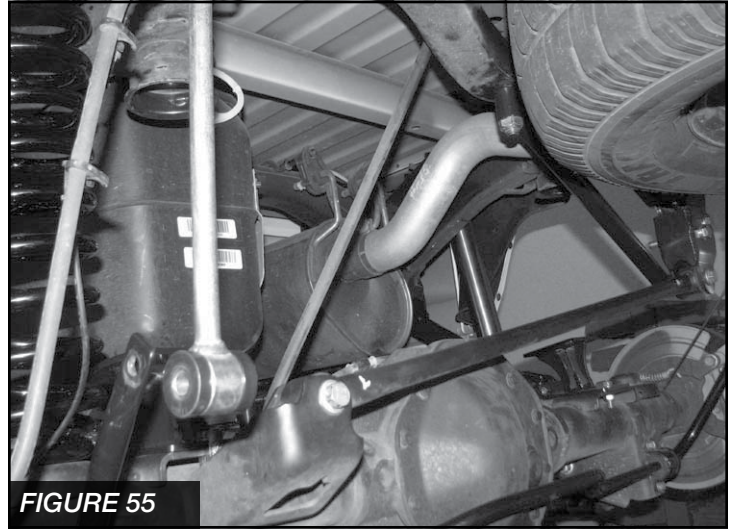

FIGURE 55
71. Locate the new sway bar links FT1599-2-4 and insert 2 bushing halves and a sleeve into each end (use the supplied lube). Install one end of the link into the frame mount and insert the M12 x 70mm bolt through the sleeve. Attach the sway bar to other end of the link with M12 x 70mm bolt, nut and washer. Torque to 65 ft-lbs. **SEE FIGURE 55**